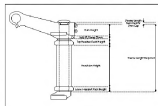

Fig. 3
- The steerer tube may need cutting to proper length. To cut the steerer tube, removal of the upper tubes are required. This is necessary otherwise the upper tubes will be in the way when cutting the steerer tube to proper length. The steerer tube length is determined by the following parts: Judy XL/XLC upper crown steerer clamp length, stem steerer tube clamp length, frame head tube length and top and bottom headset stack height (see Fig. 3, next page). To ease in the assembly, do not install the JUDY XL/XLC upper crown on to the upper tubes until the steerer has been cut to the proper length and the lower crown has been fastened in the required position. **HINT: MEASURE TWICE AND CUT ONCE**